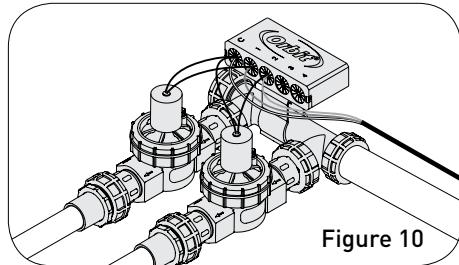

Figure 10
8. Slide the "Easy Wire" Organizer onto the mounting bracket and attach to the valve manifold (Figure 10)